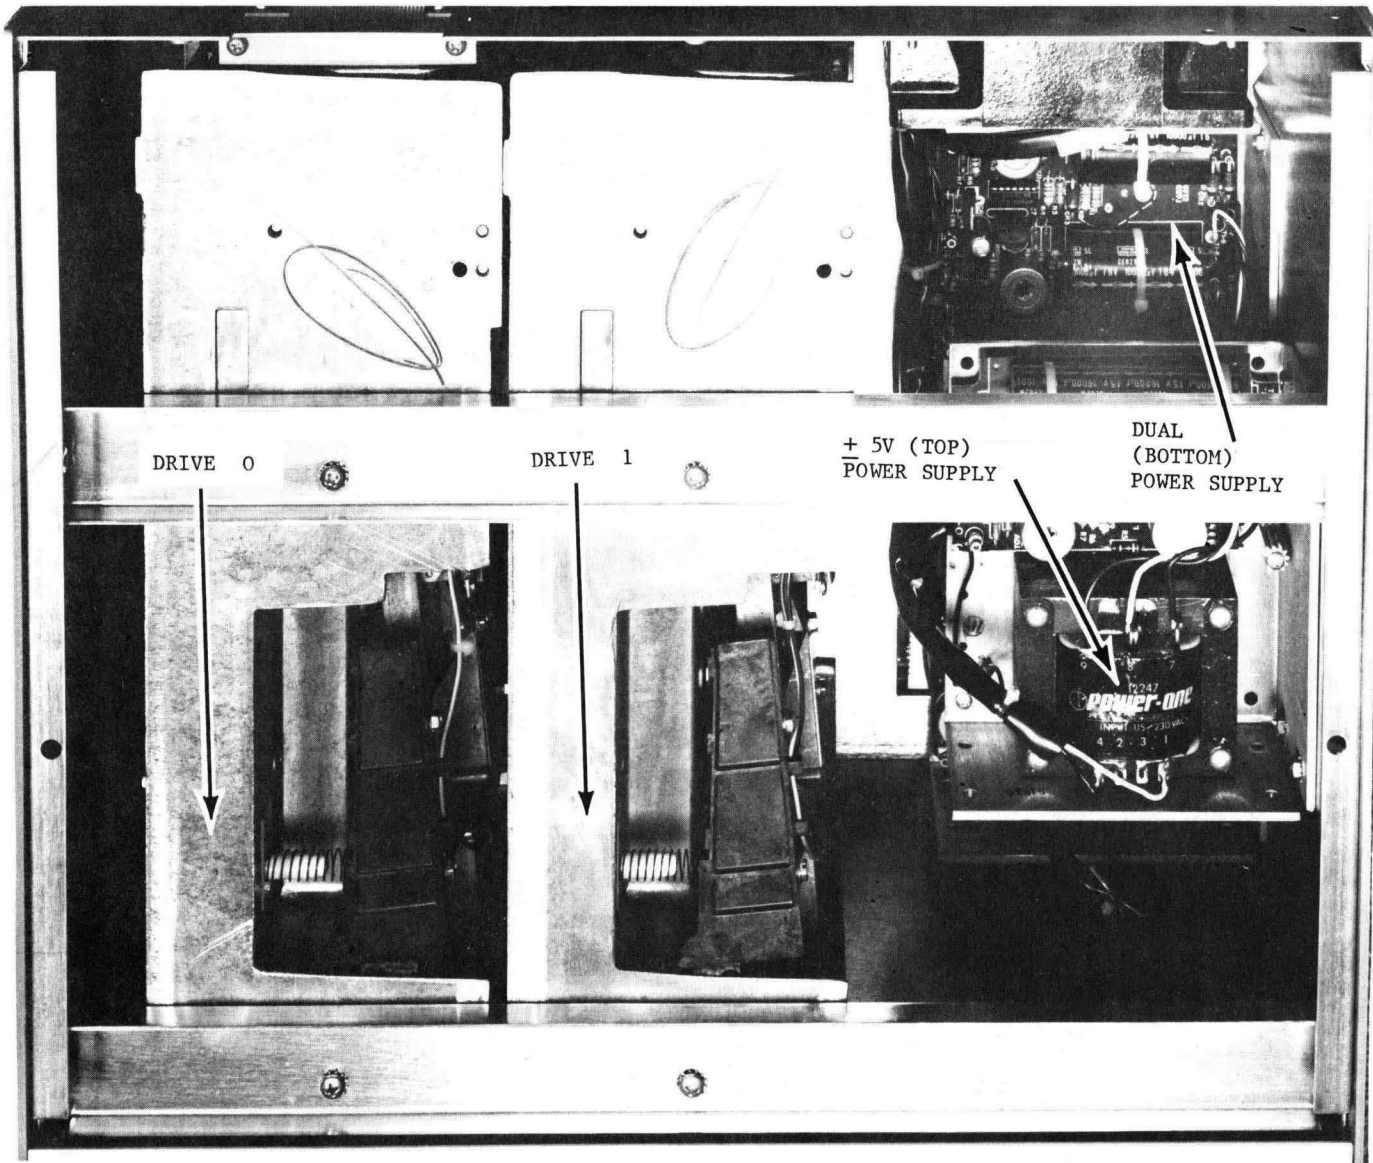

Figure 3-9. Disk Unit (Top View) Cover Removed
d. Views of the disk unit, with top and bottom covers removed, are shown in Figures 3-9 and 3-10 respectively.